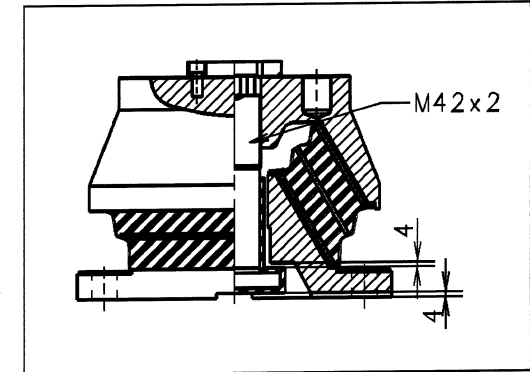

Fig 3. Internal Buffer
19. Turn the internal buffer 2 turn clockwise and check with a feeler gauge between the bottom flange on the conical element and the steel shim that the internal buffer(2), see fig 3, does not touch the steel shim.